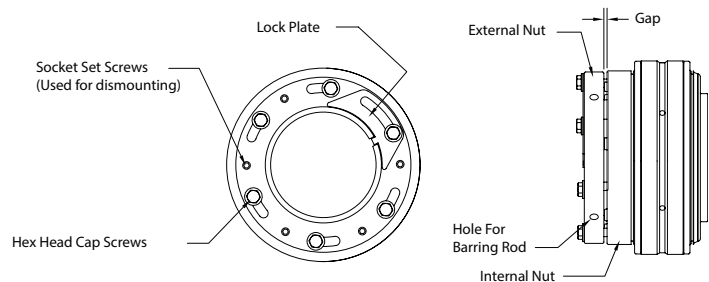
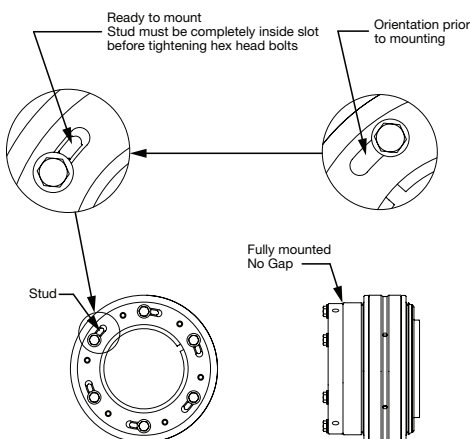
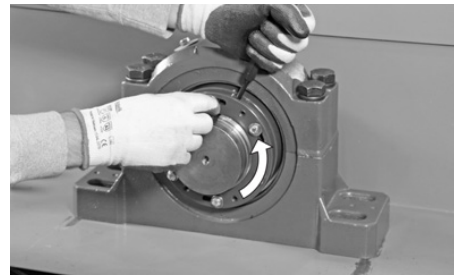
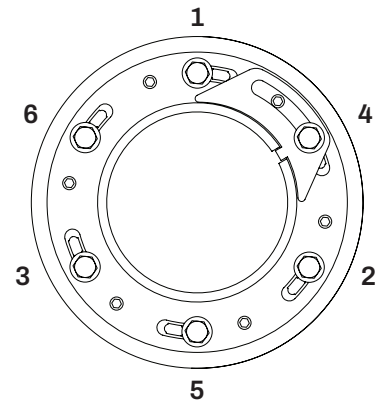

Figure 1 - Bearing with Dual Nut as Shipped with Gap
Figure 3 - Nut Rotated and Ready for Installation
Figure 4 - Holding External Nut and Rotating Internal Nut Using Hex Head Bolt
Figure 5 - Correct Installation Star Pattern
The locknut assembly is comprised of an external nut and internal nut. The bearing is shipped such that there is a gap between the two nuts. The two nuts must maintain this gap prior to mounting the bearing. The dual nut configuration prior to installation is shown in Figure 1. Note the position of the external nut slots relative to the hex cap bolts.
5. Loosen but do not remove the hex head bolts. Use 3/8" rod to hold external nut in position when loosening the hex head bolts. While holding the external nut with a 3/8" rod, grasp one of the hex head bolts, and rotate the internal nut counter clockwise to shoulder the hex head bolts as shown in Figure 3. See Figure 4 demonstrating this step. **If the external nut moves during this step, it is imperative to reposition the nut assembly so that the external nut is positioned with the alignment mark made in step 4 before proceeding to the next step. Make sure the spacing stud is visible in the slot as shown in Figure 3, or the nut will not install correctly.**
6. At this point the machined studs used to create the gap have been positioned inside the elongated slots, and the two nuts can be pulled together, which installs the bearing on the shaft. **If the external nut moves during this step, it is imperative to reposition the nut assembly so that the external nut is positioned with the alignment mark made in step 4 before proceeding to the next step.** Gradually tighten the hex head bolts in a star pattern, as shown in Figure 5, until the external nut firmly seats against the internal nut and the gap is completely closed as shown in Figure 3 (not yet full torque).
7. Remove the hex head bolt nearest to the slot in the adapter. A slight gap may appear between the two nuts when the hex head bolt is removed. This is a normal occurrence and the gap will close up when the hex head bolt is reinstalled. Install the lock plate so that the tab fits into the adapter slot. If the lock plate does not line up with the two holes, it can be flipped over to fit as shown in Figure 1. Reinstall the hex head bolt to secure the lock plate. **Using a star pattern, as shown in Figure 5, torque the hex head bolts to the values shown in Table 1.** It is considered a best practice to initially tighten the hex head bolts to 50% of full torque, then tighten again to 100% full torque (using the star pattern both times).